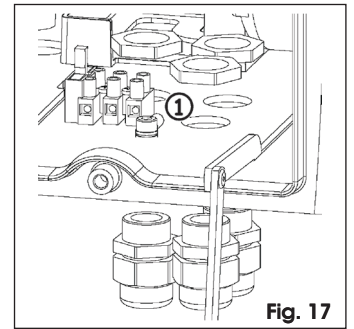

Fig. 17
3. Install the three supplied cable grippers in the respective holes under the motor body (Fig. 17 ref. ①) respecting the orientation shown in Fig. 17.